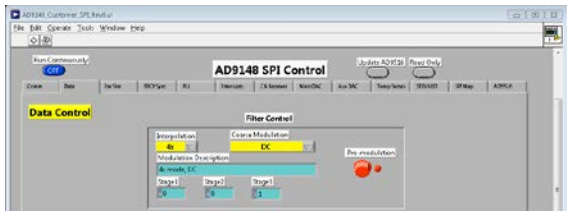

Figure 7. SPI Interface
3. Select **2x** from the **Interpolation** dropdown menu in the **Data** tab (see Figure 7).